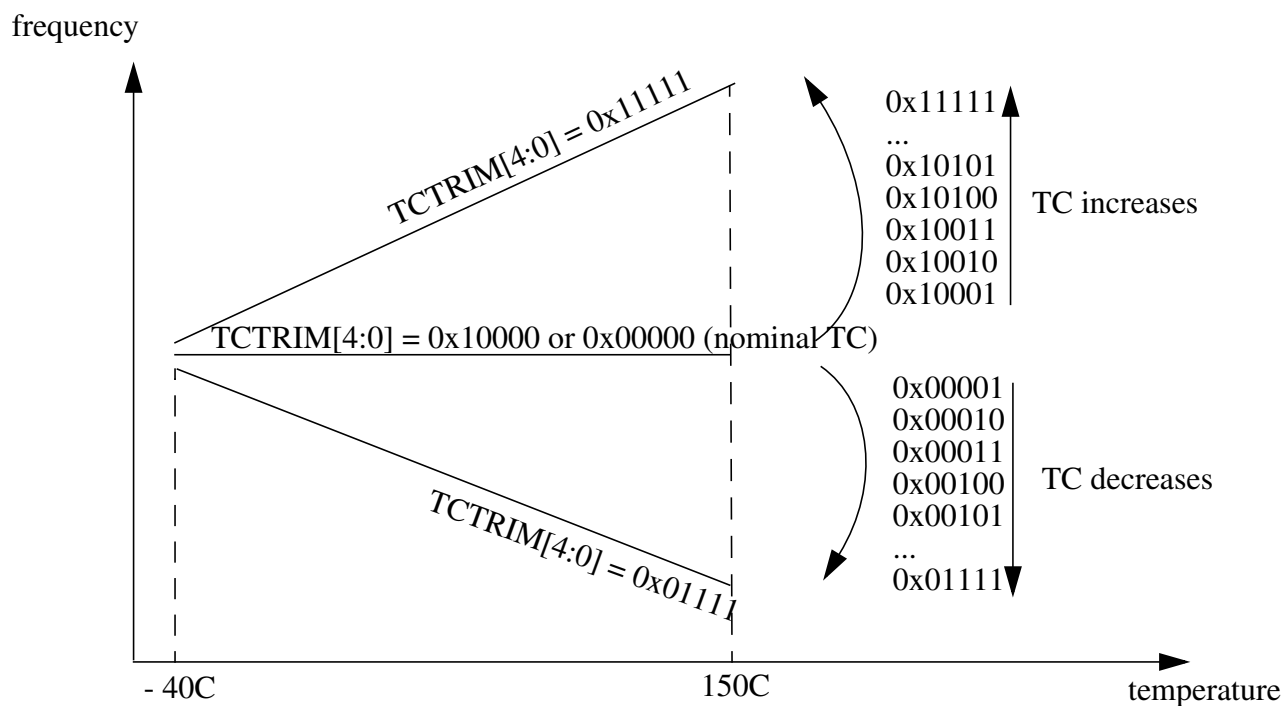

**Figure 4-29. Influence of TCTRIM[4:0] on the Temperature Coefficient**
| 15-11TCTRIM[4:0] | IRC1M temperature coefficient Trim BitsTrim bits for the Temperature Coefficient (TC) of the IRC1M frequency.<a href="#">Table 4-26</a> shows the influence of the bits TCTRIM[4:0] on the relationship between frequency and temperature.<a href="#">Figure 4-29</a> shows an approximate TC variation, relative to the nominal TC of the IRC1M (i.e. for TCTRIM[4:0]=0x00000 or 0x10000).                                                                                                                                                                                                                                                                                                                                                                                                                                                |